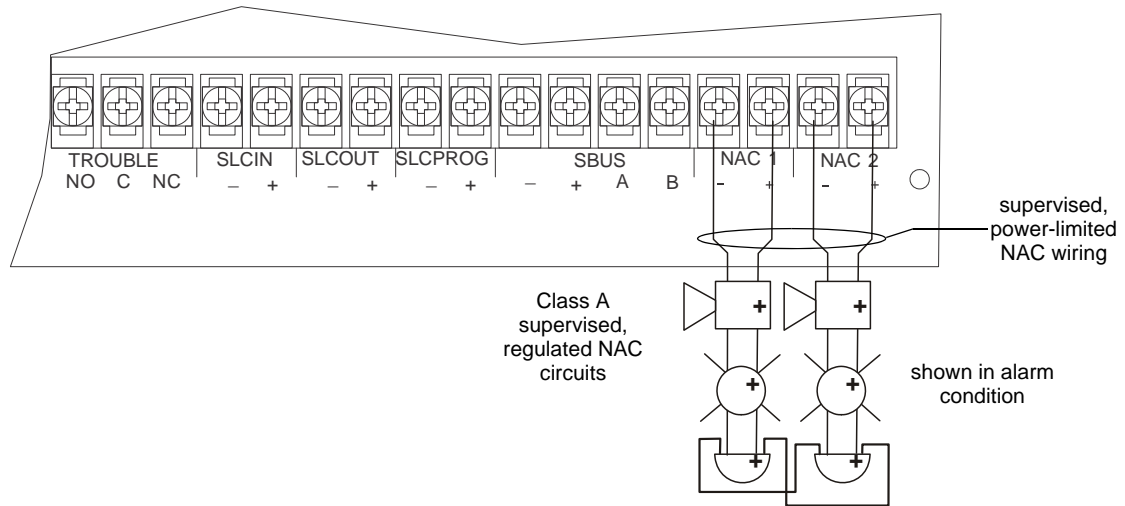

Figure 4.23 Class A Notification Appliance Circuit Configuration
1. Wire the Class A notification appliances as shown in Figure 4.23.